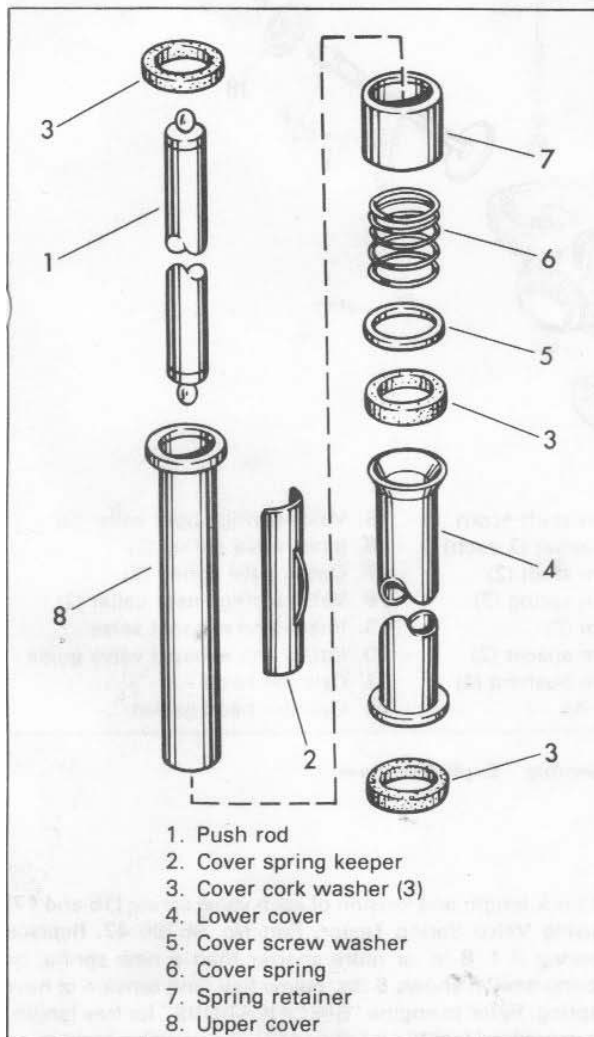
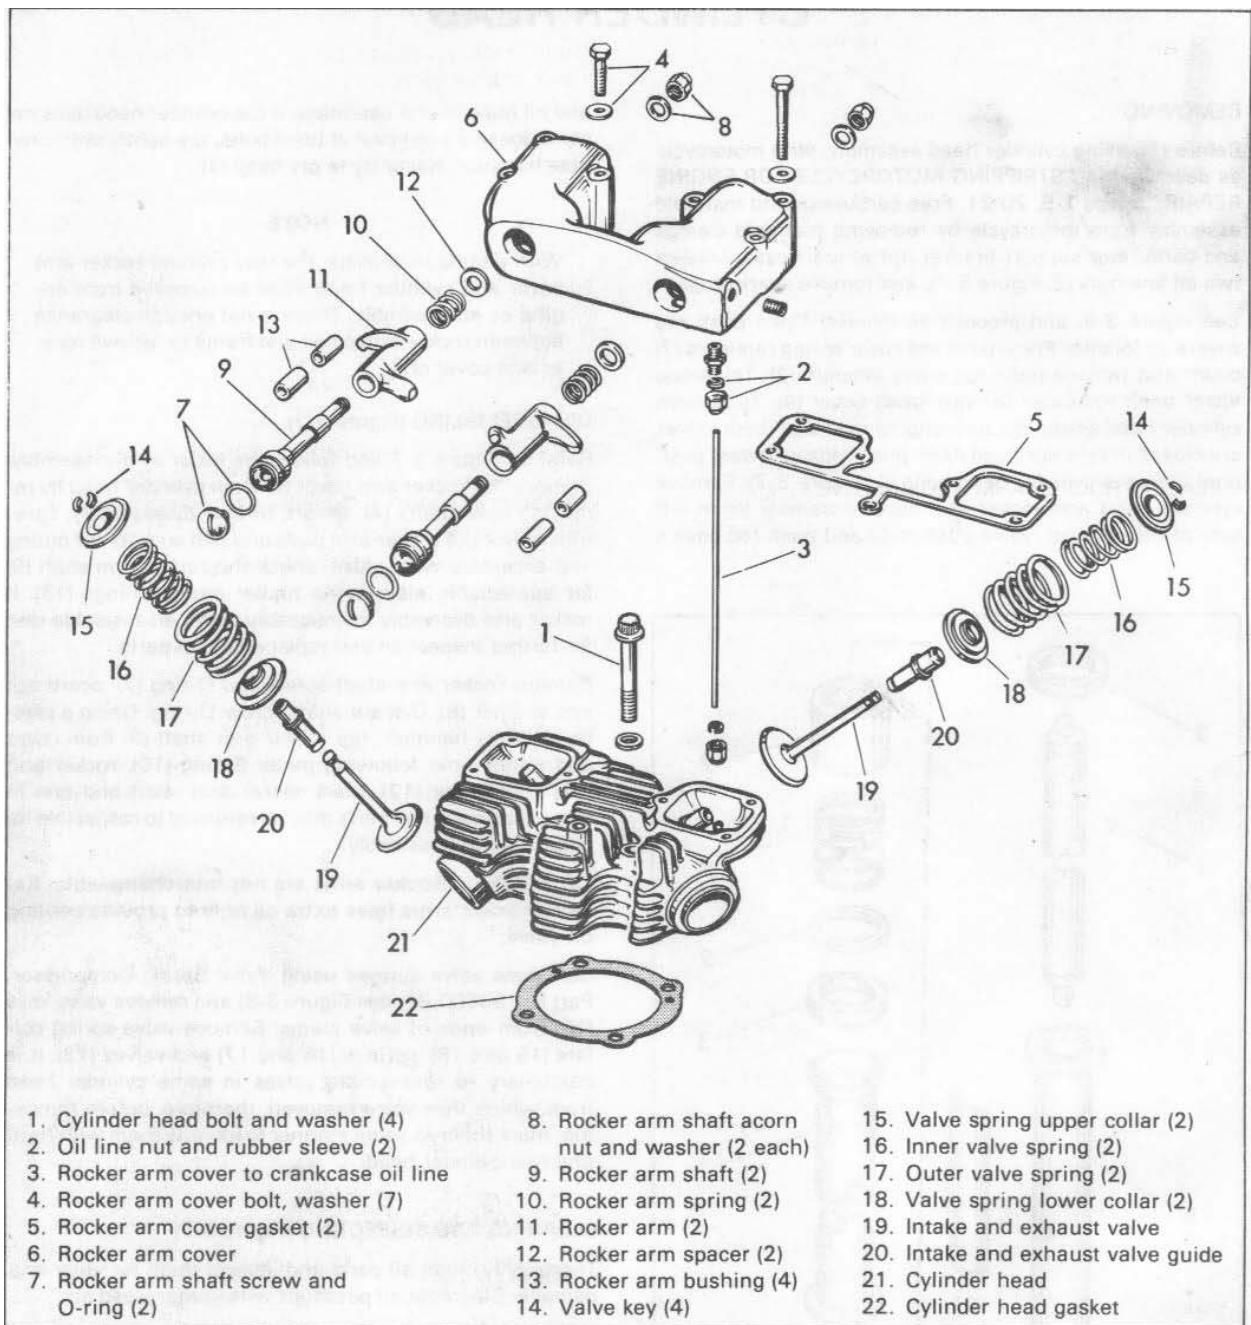

Figure 3-6. Push Rod Assembly - Exploded View
Figure 3-7. Cylinder Head Assembly - Exploded View
Before removing cylinder head assembly, strip motorcycle as described in "STRIPPING MOTORCYCLE FOR ENGINE REPAIR," steps 1-5, 20-21. Free carburetor and manifold assembly from motorcycle by removing manifold clamps and carburetor support bracket nut at crankcase. Loosen two oil line nuts (2, Figure 3-7), and remove spark plugs.
See Figure 3-6, and proceed as follows: Open push rod covers as follows: Press push rod cover spring retainers (7) down and remove push rod cover keepers (2). Telescope upper push rod cover (8) into lower cover (4). To remove cylinder head assembly, turn engine over until both valves are closed in cylinder head (both push rods in lowest position). Remove cylinder head bolts (1, Figure 3-7). Remove cylinder head and rocker arm cover assembly (from left side of motorcycle), valve push rods and push rod covers
DISASSEMBLING (Figure 3-7)
Refer to Figure 3-7 and follow the order of disassembly. Remove the rocker arm cover (6) from cylinder head by removing cover bolts (4). Before further disassembly, carefully check the rocker arm pads and ball sockets for pitting and excessive wear. Also, check the rocker arm shaft (9) for appreciable play in the rocker arm bushings (13). If rocker arm assembly is noticeably worn, disassemble unit for further inspection and replacement of parts.
CLEANING AND INSPECTING (Figure 3-7)
Inspect push rod (1, Figure 3-6) for damage and wear. Pay particular attention to the ball ends. If the ball ends are worn and flattened replace the push rod.
REPLACING ROCKER ARM AND BUSHINGS (Figure 3-7)
ASSEMBLING CYLINDER HEAD (Figure 3-7)
INSTALLING CYLINDER HEAD (Figure 3-7)
Before attempting to remove push rod and cover assembly, turn engine over until tappet is at its lowest position. Turn adjusting screw locknut (3) all the way up to end of thread on adjusting screw (2). Turn adjusting screw (2) all the way down into tappet body. Remove push rod and cover assembly by lifting push rod upward and to one side, be careful not to bind push rod upper end in aluminum rocker arm housing. Doing so may result in a bent push rod. Install new cork washers (3, Figure 3-6) in aluminum rocker arm housing and in tappet guide, being careful not to damage them and making sure they are well seated. Replace cork washer (3, Figure 3-6) in push rod cover with a new one.